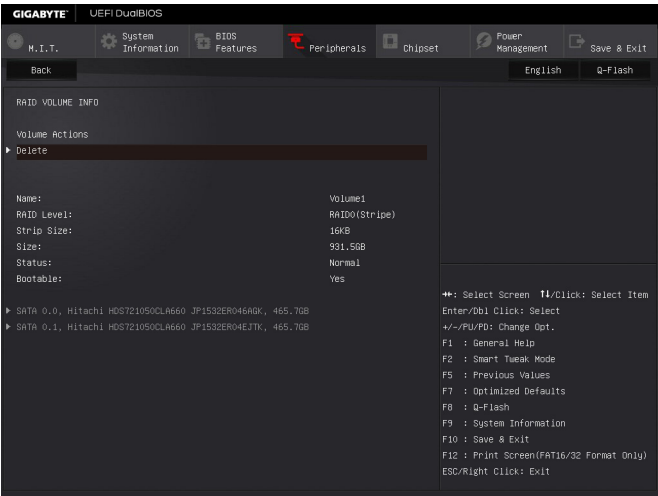

Figure 7
After completing, you'll be brought back to the **Intel(R) Rapid Storage Technology** screen. Under **RAID Volumes** you can see the new RAID volume. To see more detailed information, press <Enter> on the volume to check for information on RAID level, stripe block size, array name, and array capacity, etc. (Figure 7)